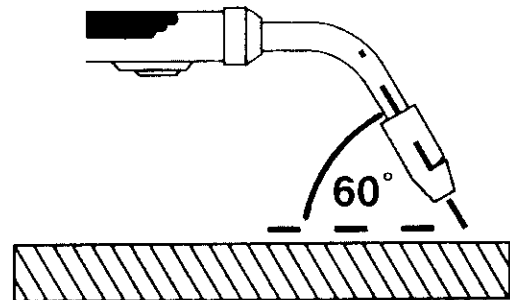

Figure 7. Gun Position, Angle A
1. Angle A (Figure 7) can be varied, but in most cases the optimum angle will be 60 degrees. The point at which the gun handle is parallel to the work piece. If angle A is increased, penetration will increase. If angle A is decreased, penetration will decrease also.